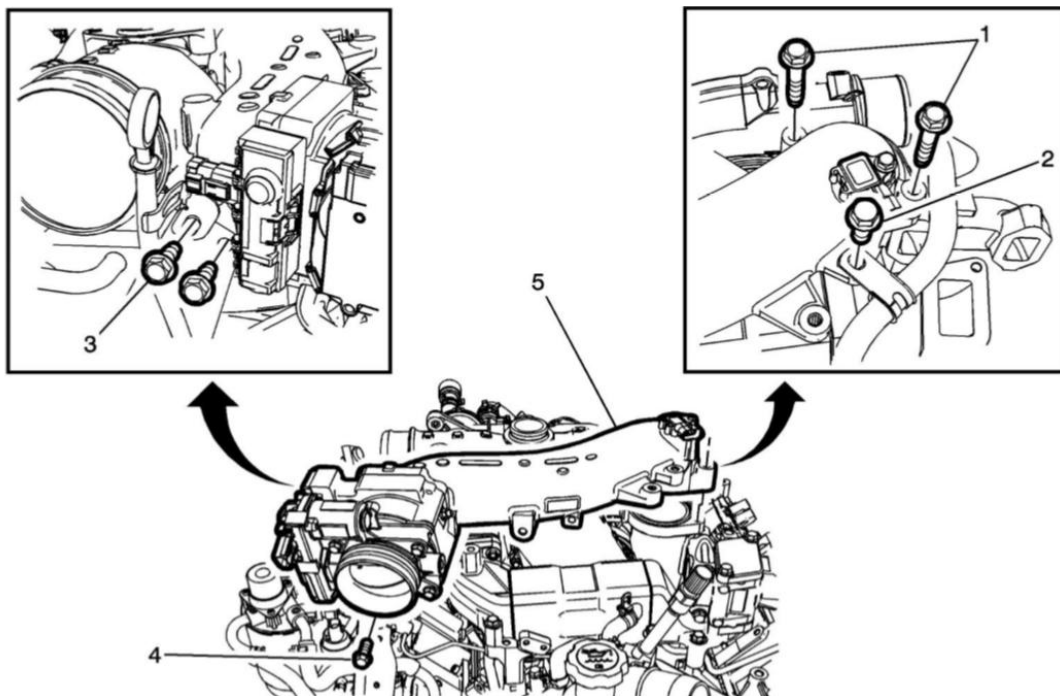

Fig. 3: Intake manifold tube
STEP 8: Remove intake manifold tube. First, disconnect the harness connector on the throttle body. Loosen the two 13mm bolts affixing the pipe to the intake manifold near the MAP sensor. (see figure 3)
STEP 9: Loosen the oil dipstick tube bracket bolts and the hidden 10mm bolt affixing the intake air heater ground bracket to the intake pipe. (see item 2 in figure 3)